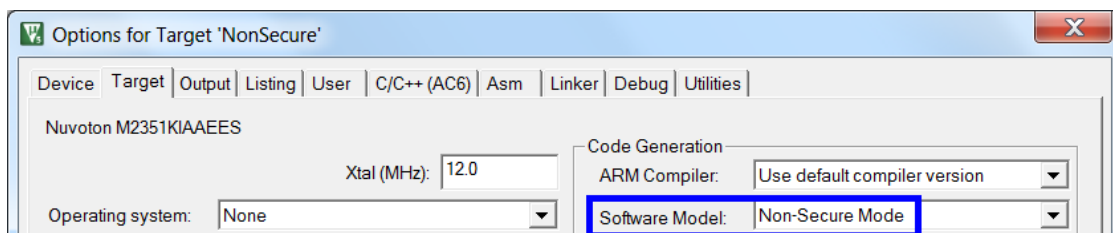

Figure 3-2 Check Software Model in Keil® MDK
- Click [Options for Target – Target] as shown in Figure 3-2, and the second developer must check if the Software Model is in Non-Secure Mode.